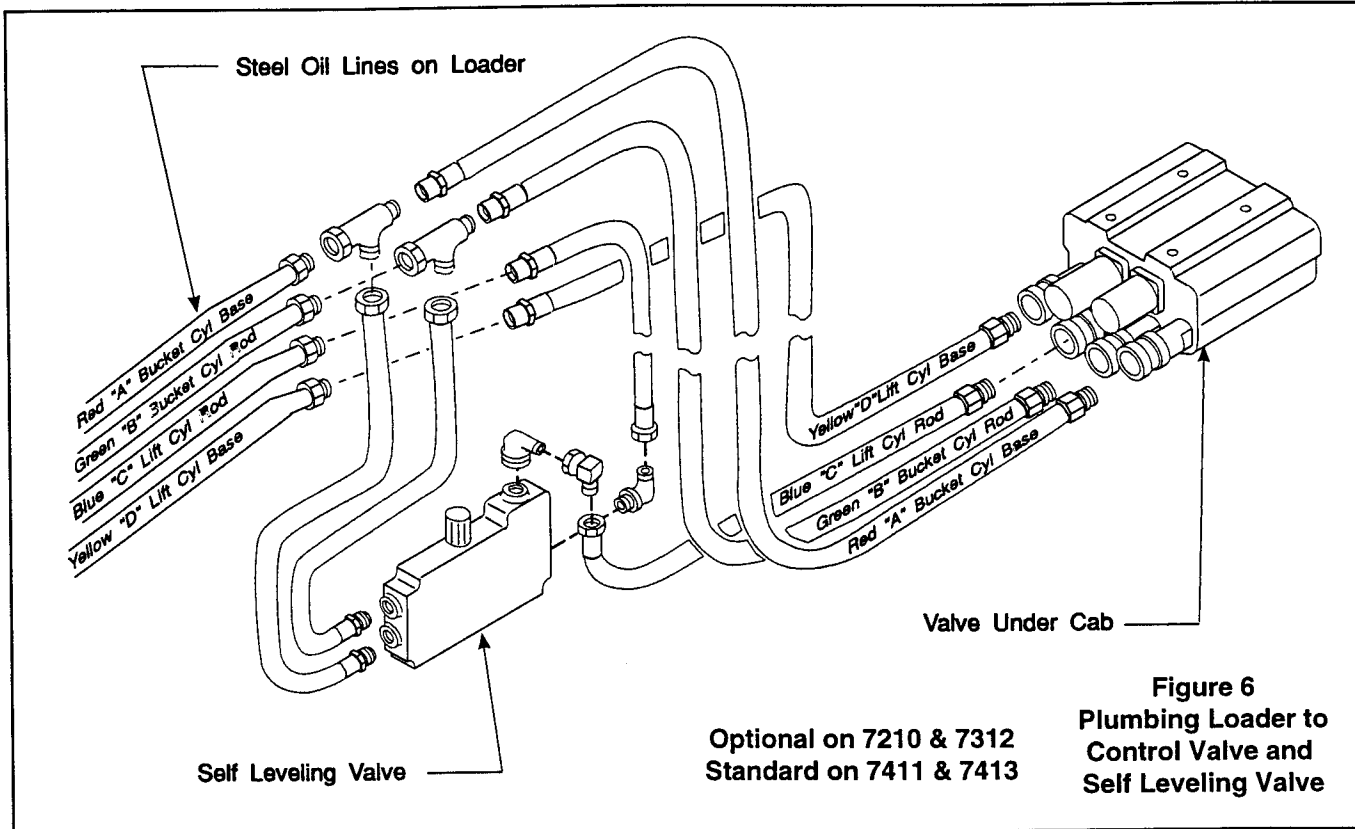

Figure 6
NOTE: For a simplified view of Plumbing Loader to Control Valve and Self Leveling Valve see (Figures 6 & 7). Refer to Figure 8 for location of rubber straps (3) on a typical loader installation.
1. Install 1/2 x 120 hoses (27) onto boom oil line tubes. Install and tighten hose fittings one at a time from bottom up. Loosening closest oil line clamp will ease installation.
2. Install male quick couplers (31), and colored rings (32) onto free ends of hoses. Do not overtighten male couplers.